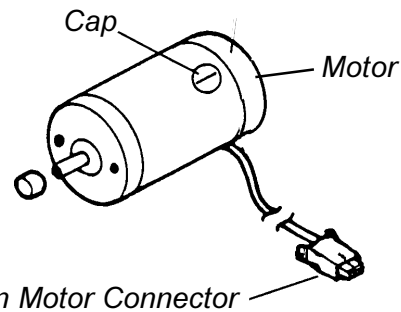

FIGURE 4 - MOTOR BRUSH INSPECTION
**MOTOR BRUSH INSPECTION (FIGURE 4)**